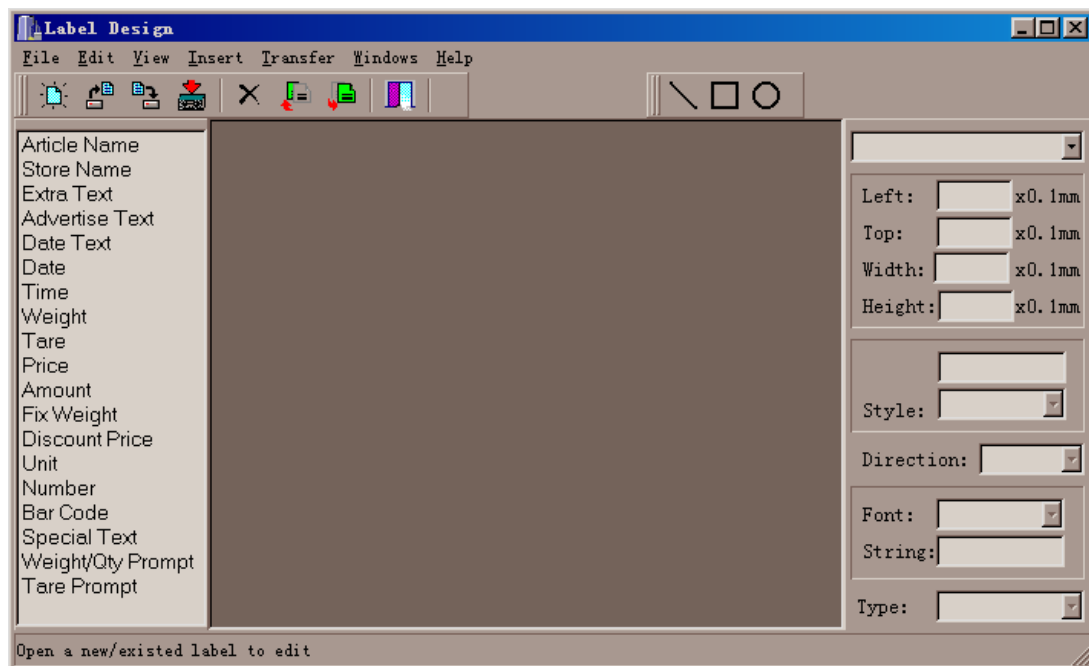

Fig. 7-1
- ☞ Select **LABEL DESIGN** in main menu and show **LABEL DESIGN** interface as fig. 7-1.